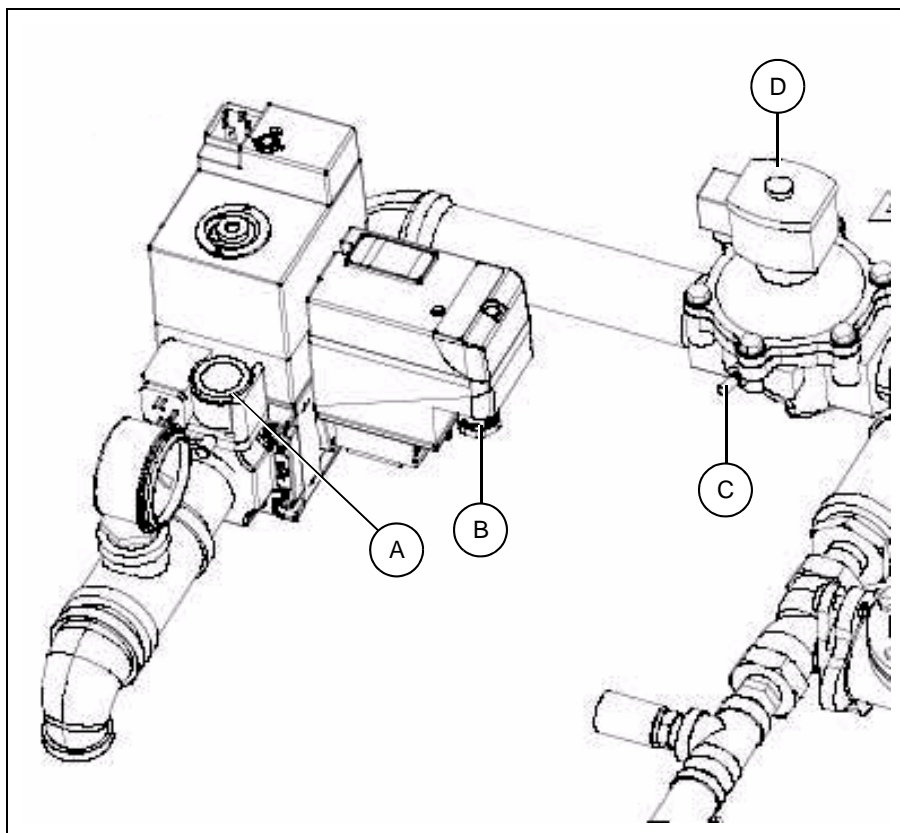

Figure 9A
The main safety shut off valve is fitted with a proving system which will prevent burner start-up if the valve is leaky. (See Figure 9A.)
7. Read pressure at burner gauge. (See Figure 9A on Page 24.)